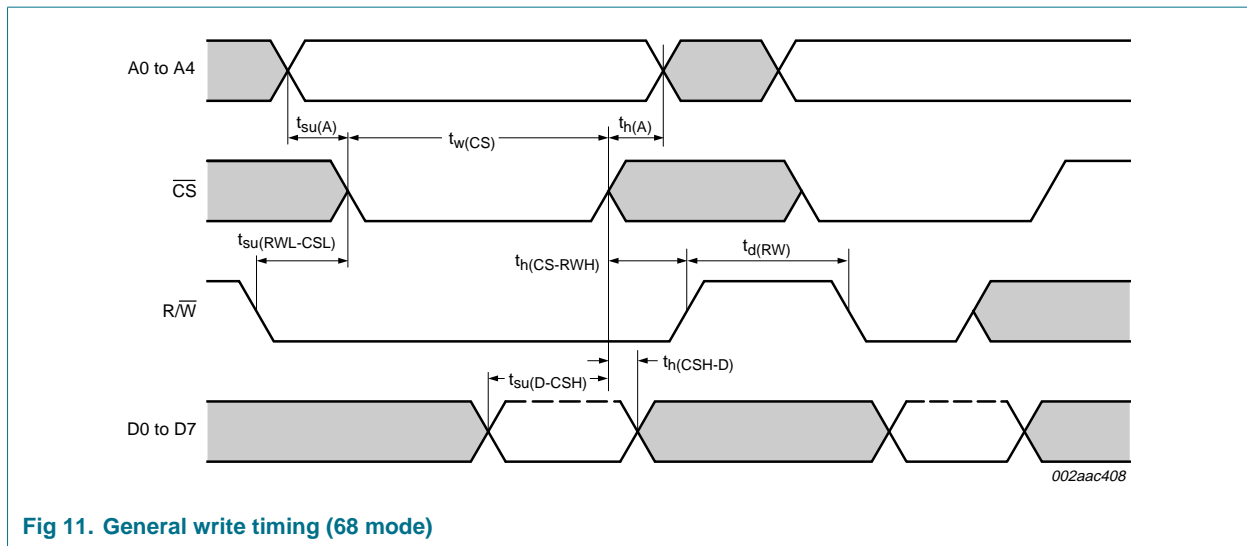

Fig 11. General write timing (68 mode)
(1)  $\overline{\text{CS}}$  timing during a write cycle. See Figure 11.